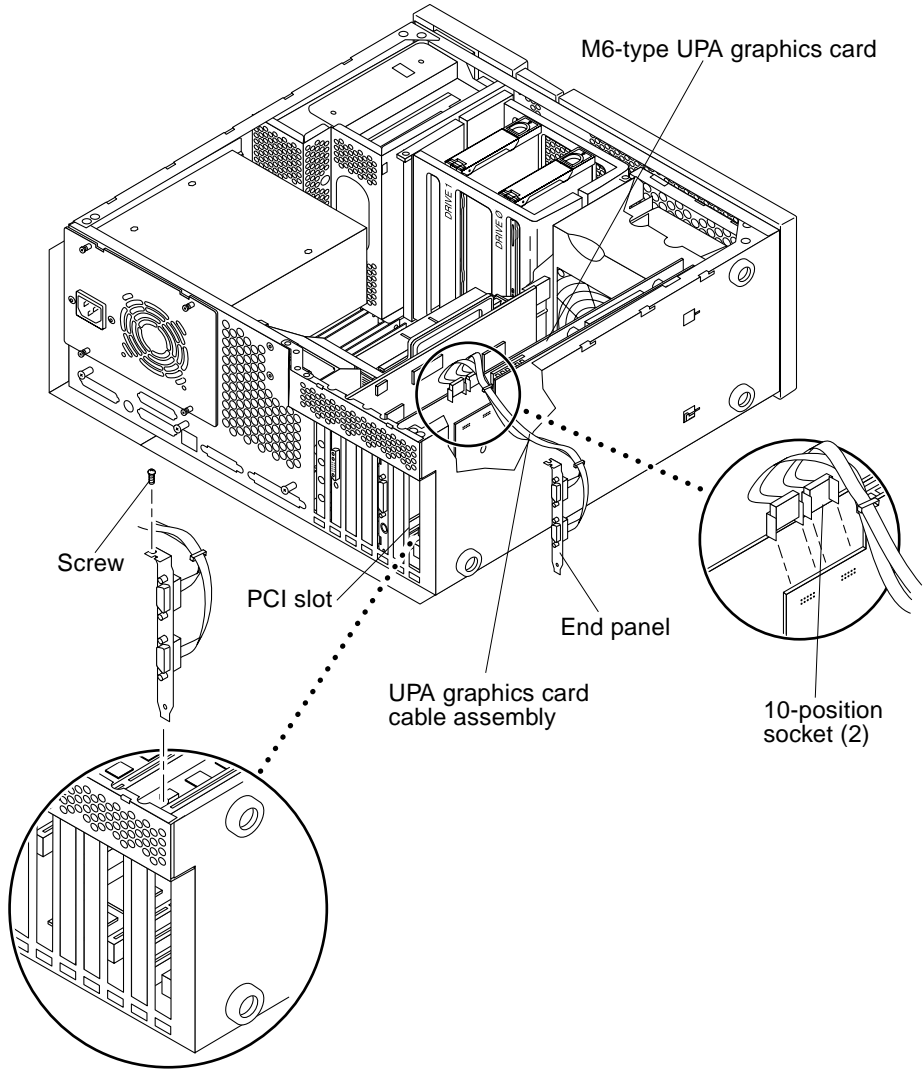

FIGURE 8-5 Removing and Replacing the UPA Graphics Card Cable Assembly
5. Remove the UPA graphics card cable assembly as follows (FIGURE 8-5):
1. **Replace the UPA graphics card cable assembly as follows (FIGURE 8-5):**